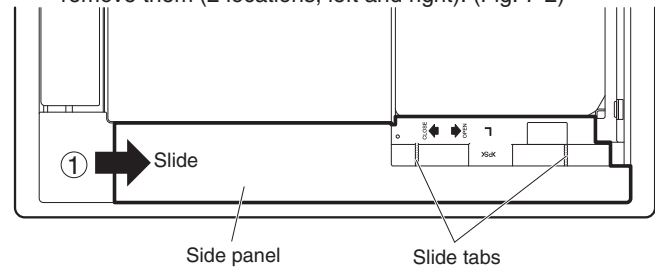

Fig. 7-2
- (1) Slide the side panels in the direction of the arrow ① to remove them (2 locations, left and right). (Fig. 7-2)